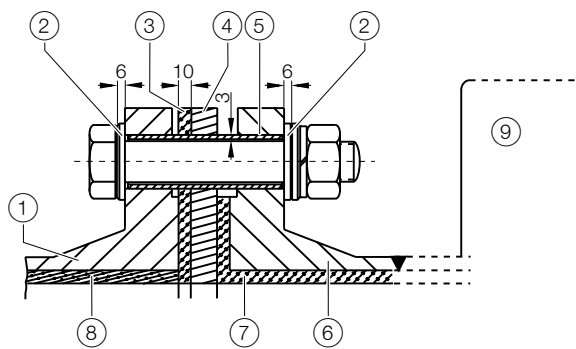
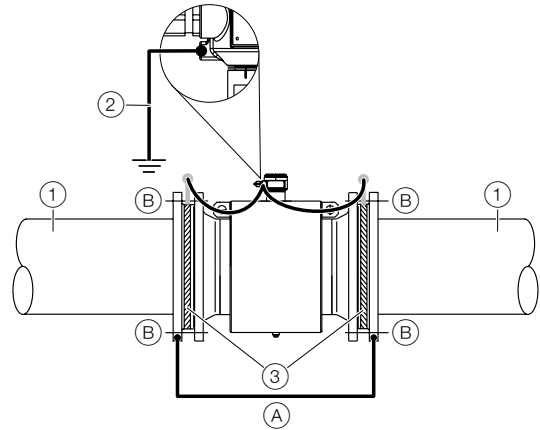

Figure 23 Bolt screw view
Figure 24 Flowmeter sensor with grounding plate and functional earth
- When installing an electromagnetic flowmeter in pipes with insulating inner lining and free from foreign matter, it should be insulated with grounding rings on the upstream and downstream side. The corrosion protection potential is diverted. The grounding rings upstream and downstream of the electromagnetic flowmeter are connected to functional earth (Fig. 23 / Fig. 24).